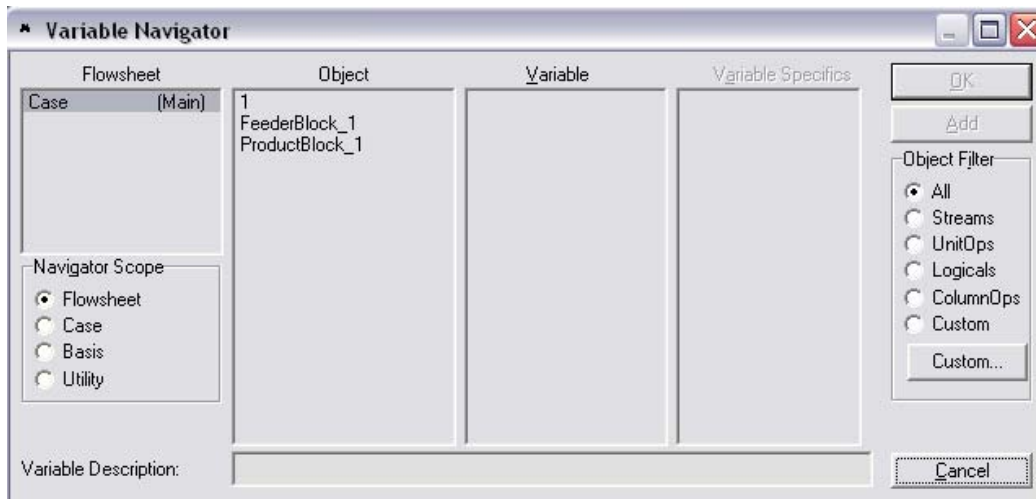

Figure 2-8
2. Next, click **Insert** button then **Variable Navigator** view displays as shown in Figure 2-8.